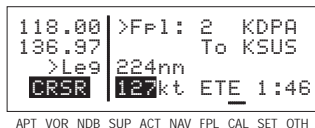

Figure 4-57
5. Select your estimated groundspeed for the trip. As you change it, the estimated time en route (ETE) calculation will be updated (figure 4-57).